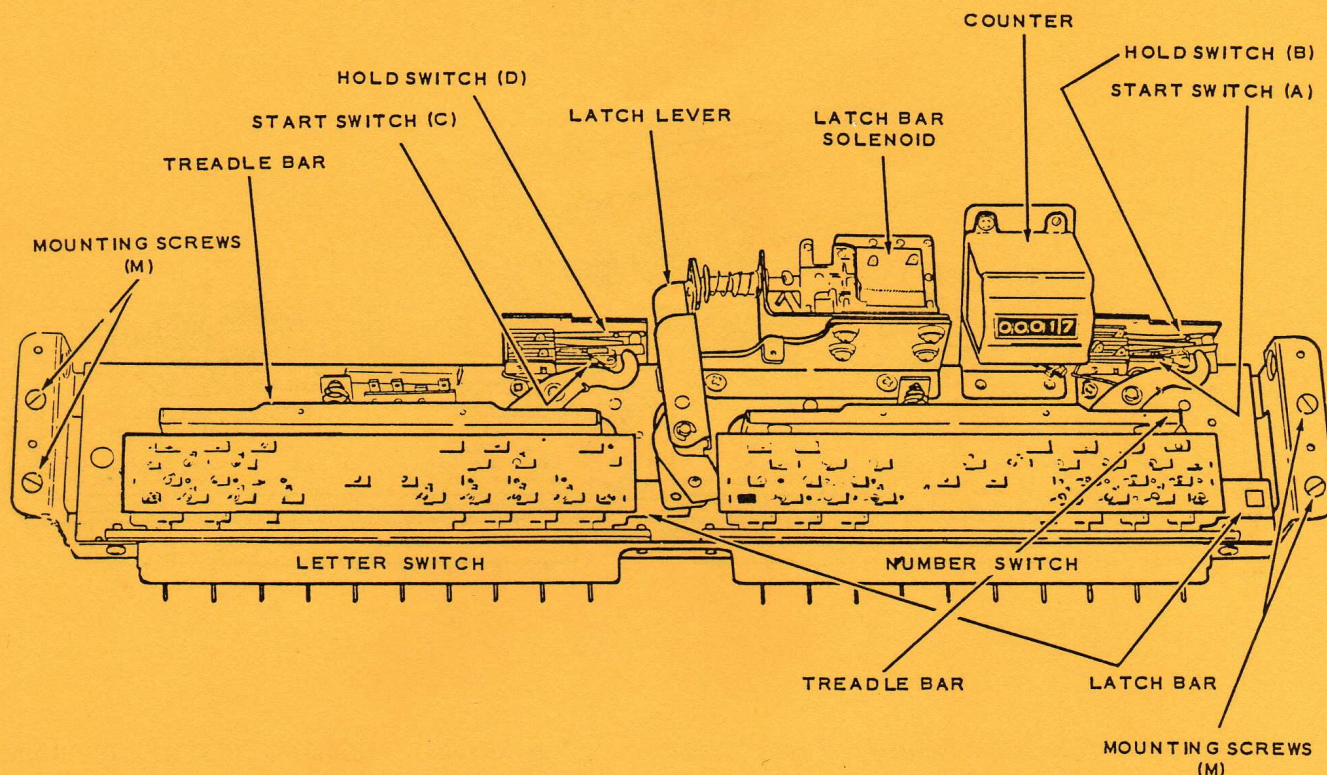

Figure 2.
all switch adjustments and all circuits of the Selector are accessible for inspection and service without removing it from the cabinet. The entire unit may, however, be removed by pulling out the two connecting plugs at the end of the cable and taking out three screws that are at the back edge of the selector frame. These screws are identified at (M) in Figure 2.